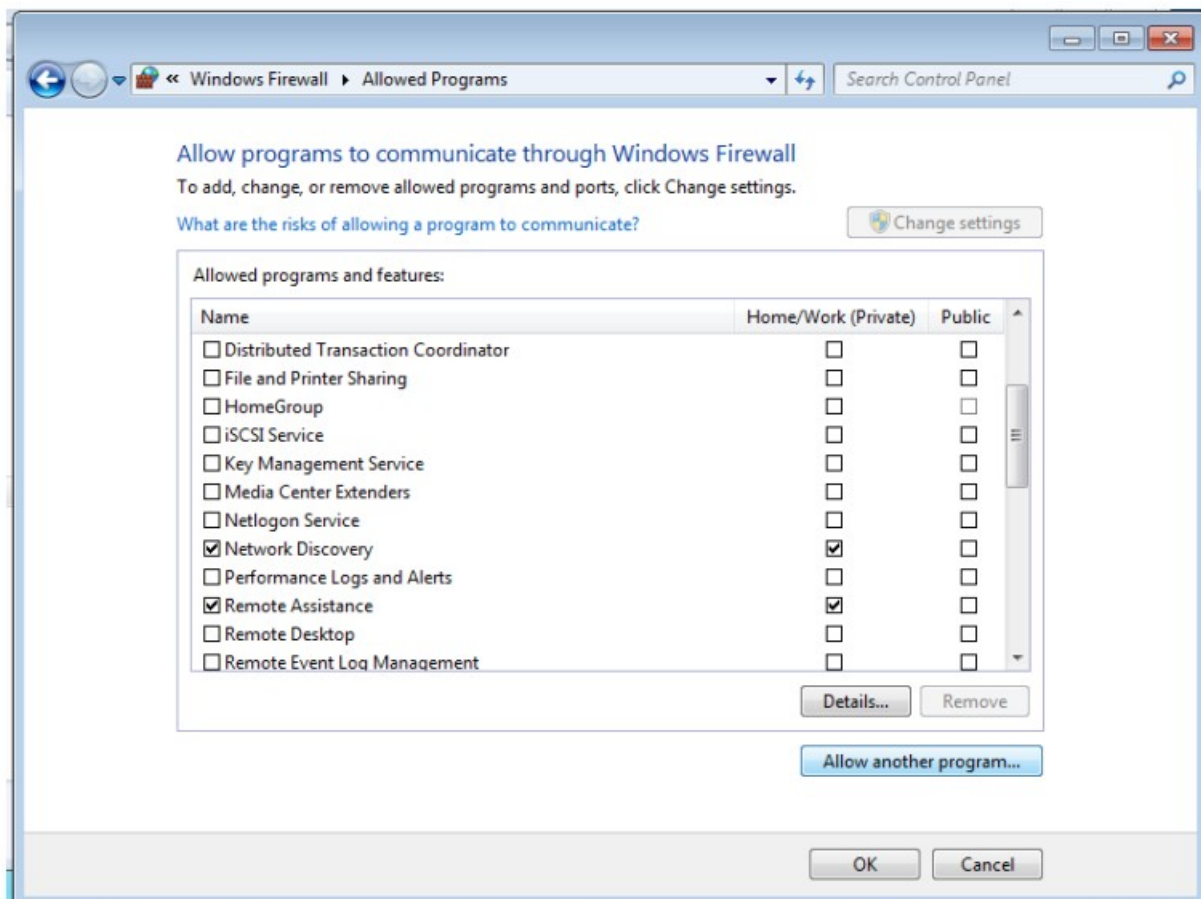

Fig.1.17 Allowed Programs
(5) Click “Changes settings” button and “Allow another program” button (see Fig.1.17). Then add “SQLServr.exe” to the list of allowed list according to the path “C:\Program Files\Microsoft SQL Server\MSSQL10.SQLEXPRESS\MSSQL\Binn\sqlservr.exe”